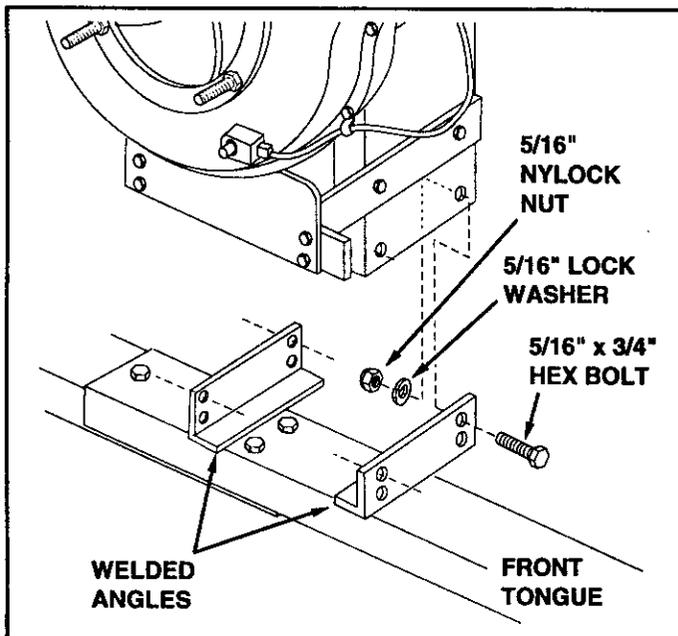

FIGURE 21
- Assemble the engine base assembly to the welded angles on the tongue using four 5/16" x 3/4" hex bolts, 5/16" lock washers and 5/16" nylock nuts. Tighten the bolts securely. See figure 21.